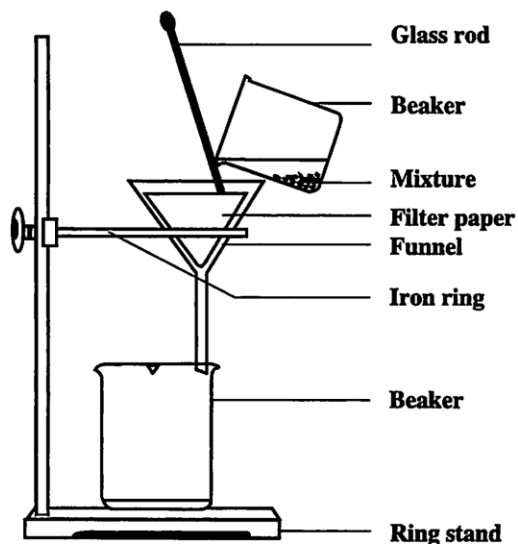

Figure 1. Filtering Apparatus
8. Weigh a piece of filter paper and record this mass in Table 4. Set up a filtering apparatus as shown in Figure 1.